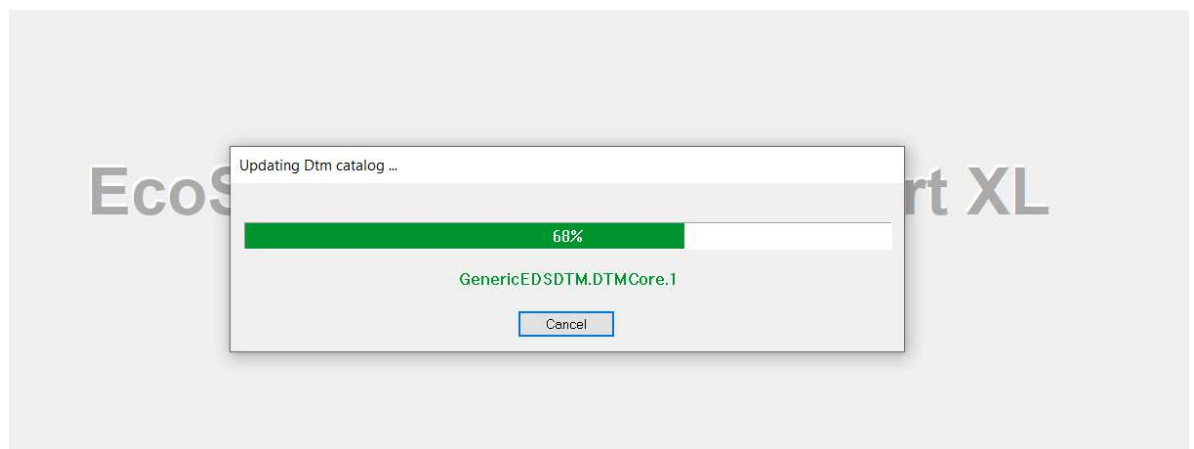

Figure 10 – Control Expert shows updating the DTM catalog
- Upon starting, Control Expert will detect DTM's that are installed on the PC and perform a DTM catalog update (See Figure 10).